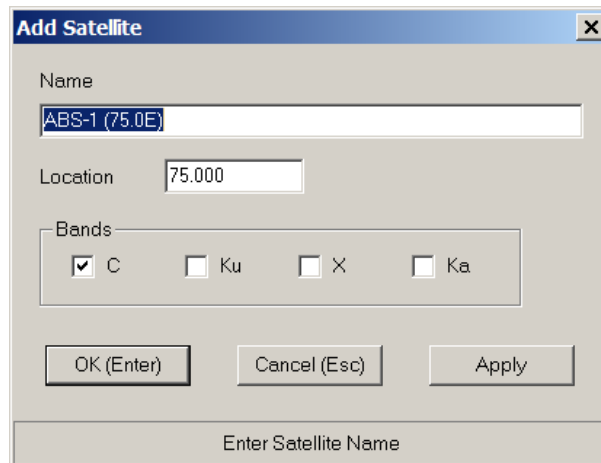

Figure 4-19: Add Satellite Dialog Box
2. Click **Edit** and select **Edit Satellite**. The **Edit Satellite** dialog box appears with the satellite configuration (see Figure 4-19).